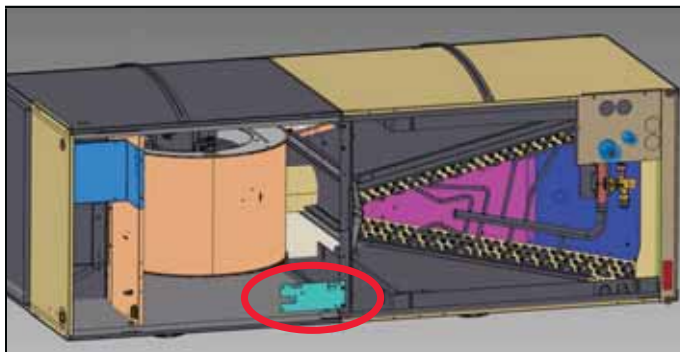

FIGURE 21
- 3 - After coil assembly and center support bracket are reinstalled into unit, with air handler unit panels removed, install sensor bracket assembly to the center support bracket by lining up the holes as shown in figure 21.